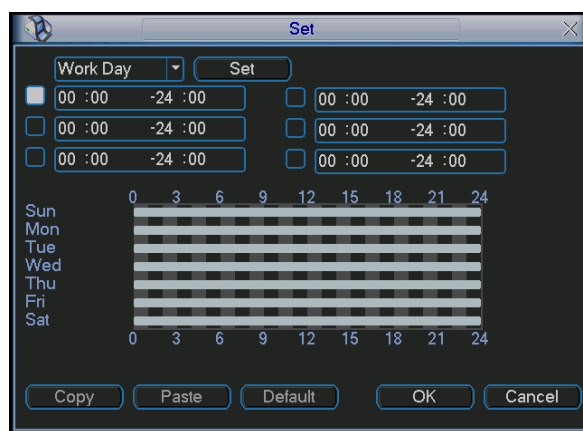
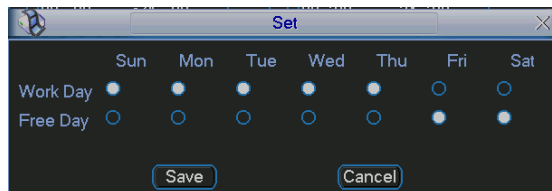

Figure 4-19
Figure 4-20
- Period: Click set button, you can see an interface is shown as in ____Figure 4-19.. Here you can set for business day and non-business day. In ____Figure 4-19., click set button, you can see an interface is shown as in ____Figure 4-20. Here you can set your own setup for business day and non-business day.